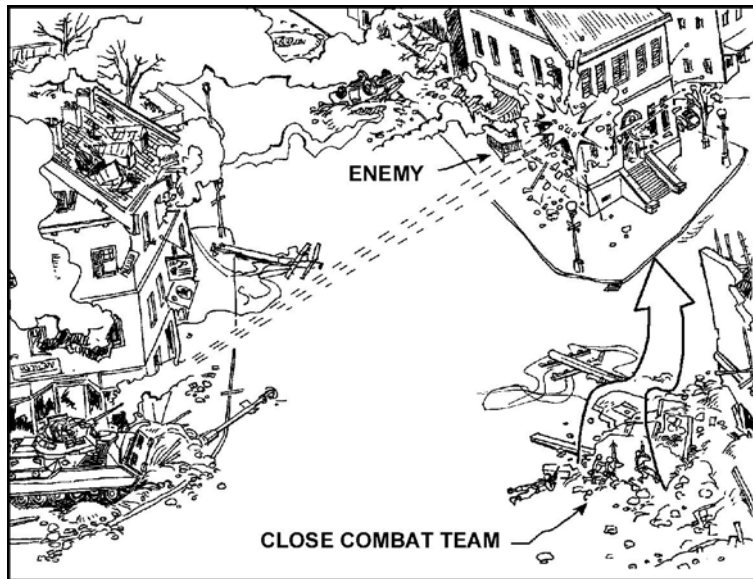

Figure 2. M2 providing direct fire support.
2. Use the M2 to provide direct fire support for the dismount team (Figure 2). Have fighting vehicle teams move behind the dismount teams and move up to engage targets located by the dismount teams.